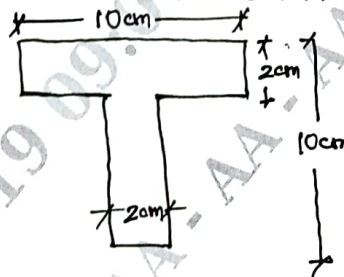

Fig.Q2(b)
- b. Determine moment of inertia of the section about the horizontal and vertical axis passing through the centre of gravity of the section shown Fig.Q2(b). (12 Marks)